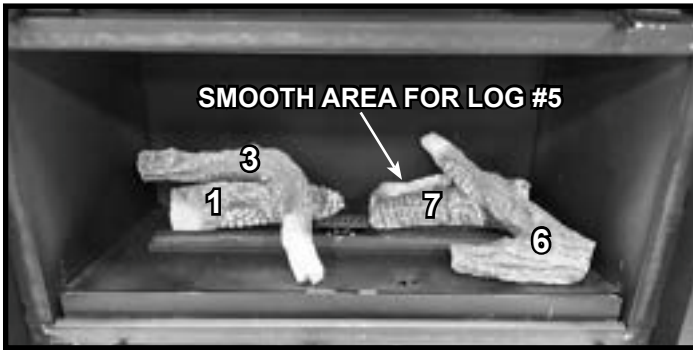
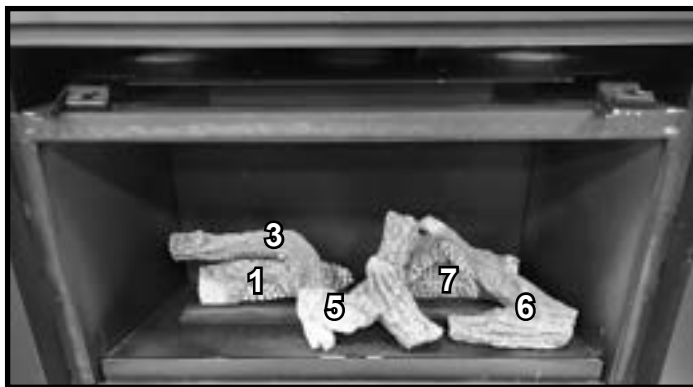

Figure 21. Place Log #6
Figure 22. Place Log #5
12. Install Log #6 by placing the right end of the log against the right log tab. The left end of the log will contact the back side of the left tab. The back end of Log #6 will sit on top of Log #7. See Figure 21.
13. Install Log #5 by placing the forked end down as shown in Figure 22. One side of the fork will rest on Log #3 and the other side of the fork will touch the designated log placement tabs. The other end of the logs rests on the smooth area on Log #7 as noted in Figure 21. See Figure 22.